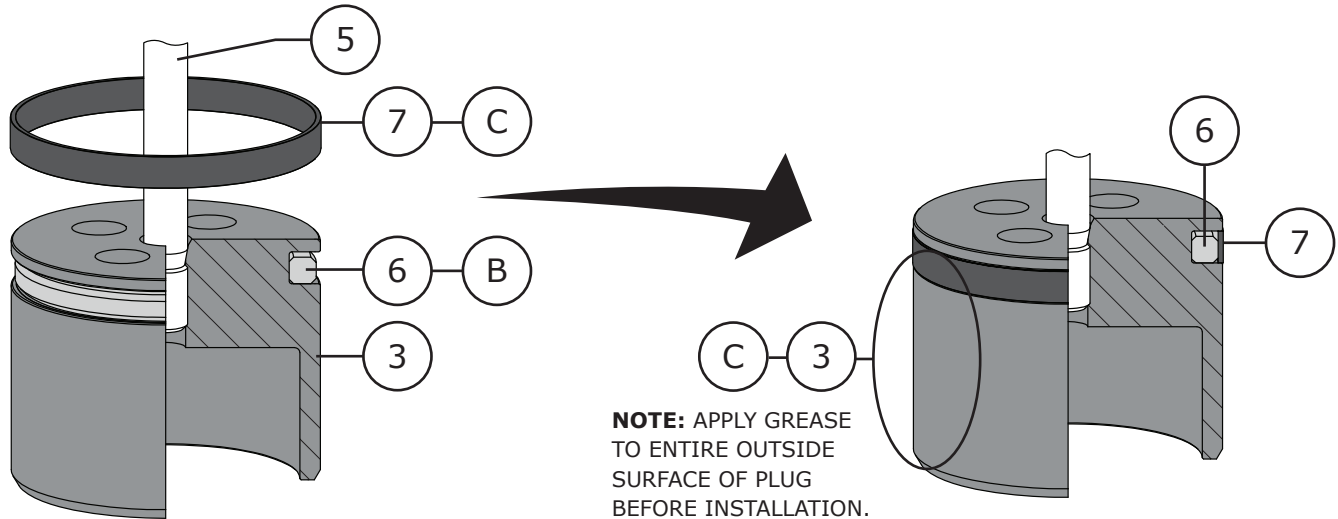
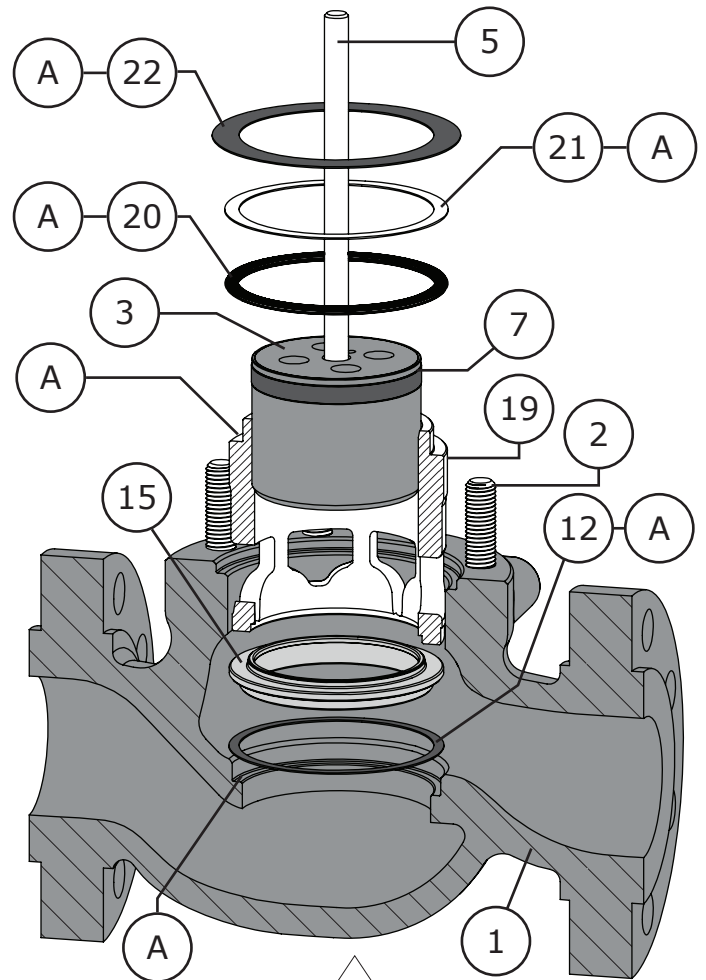

Figure 17 Two-Piece Plug Seal Assembly (Model 360 Only)
Figure 23 Trim Parts Assembly
- 2 Carefully slide the backup ring (Key 6) over the top of the valve plug (Key 3) and into the groove. Refer to Figure 17.
- 3 Apply Lubriplate® No. 105 (Key C) to the seal ring (Key 7). Carefully slide the seal ring over the top edge of the valve plug (Key 3) and into the groove, refer to Figure 17.
- 5 Before installing the plug/stem assembly into the valve, apply Lubriplate® No. 105 (Key C) to the outside surface of the plug (Key 3) as shown in Figure 17.
- 1 Apply nickel anti-seize (Key A) to the seat ring pocket of the valve body (Key 1) and top surface of the seat ring gasket (Key 12). Install the seat ring gasket into the valve body (Key 1). Refer to Figure 23.
- 5 Apply Lubriplate® No. 105 (Key C) to the side of the valve plug (Key 3) (Refer to Figures 17, 18, & 20). Install the valve plug assembly into the cage (Key 19) (Refer to Figure 23).
- 6 Apply nickel anti-seize (Key A) to the gasket surface of the cage (Key 19) or cage retainer (Key 49) and top surface of the spiral wound gasket (Key 20), metal shim (Key 21), and bonnet gasket (Key 22). Install the gaskets and shim as shown in Figure 23 or 35 for Low-Noise trim.